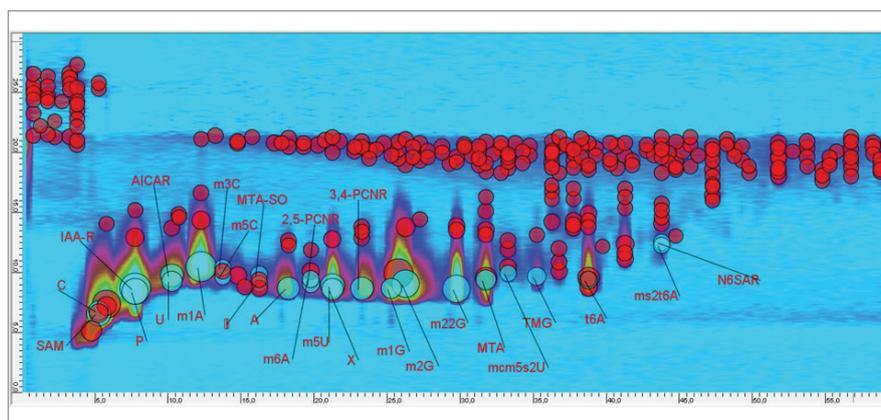

Figure 1. Detection of modified nucleoside in SPE-purified urinary samples by 2D-LC-QToF MS.
Figure 1. A. Separation of ibuprofen and impurities 1–9 on the first-dimension reversed phase column and B. heart-cutting of the ibuprofen peak and transfer to the second-dimension chiral column for separation of the enantiomers.
The effluent from the first-dimension column was sampled at 15.45 minutes with a loop fill time of 0.20 minutes to transfer the ibuprofen peak to the second-dimension chiral column and enable separation of the enantiomers. Figure 1 shows when the effluent of the first-dimension column was cut and transferred to the second-dimension column (A) and the separation of the ibuprofen enantiomers on the second-
Currently, we are looking forward to the first comprehensive measurements from a large batch of real life samples. The first results look very promising (see Figure 1).
Figure 1. Comprehensive HILIC/WAX 2D-LC separation of fetuin (A) and EPO (B), showing highly orthogonal separation. The ion exchange chromatography in the second dimension reveals the charge pattern of the glycans.